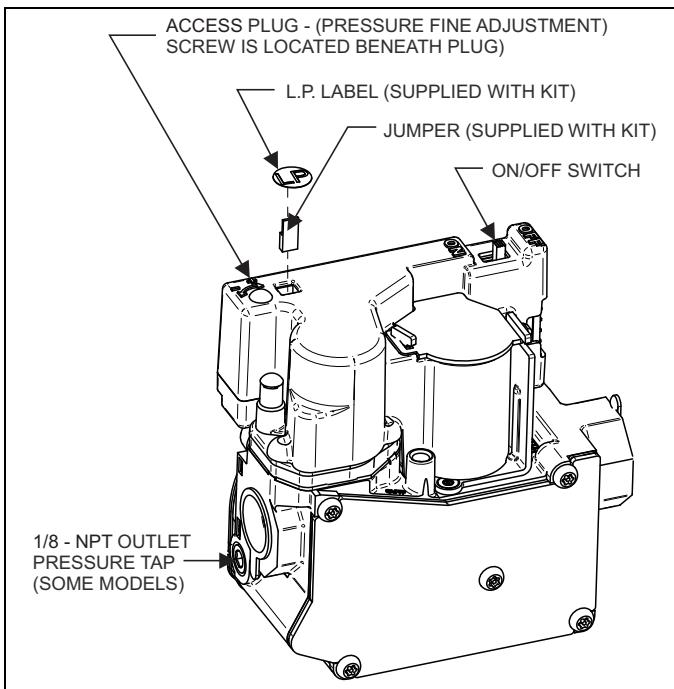

FIGURE 1:
4. Convert the gas valve from natural gas to LP gas using separate instruction sheet in the LP conversion kit envelope. Remove the "NAT" label from top of the valve and place the jumper on the pins under the label, use care the jumper engages both prongs, Refer to Figure 1.
Follow the appropriate section in the instructions below. Refer to Figure 1 for a drawing of the locations of the pressure ports on the gas valve.
4. Remove the plastic cap over the pressure regulator adjustment screw. See Figure 1 for location.
6. The pressure adjustment screw is an electronic adjustment screw. When turned 360°, about 16 clicks, the pressure will be back at the starting point. Remove the protective access plug to expose the adjustment screw. Refer to Figure 1. Turn screw one click at a time and wait a few seconds for pressure to stabilize. Adjust pressure as necessary one click at a time.